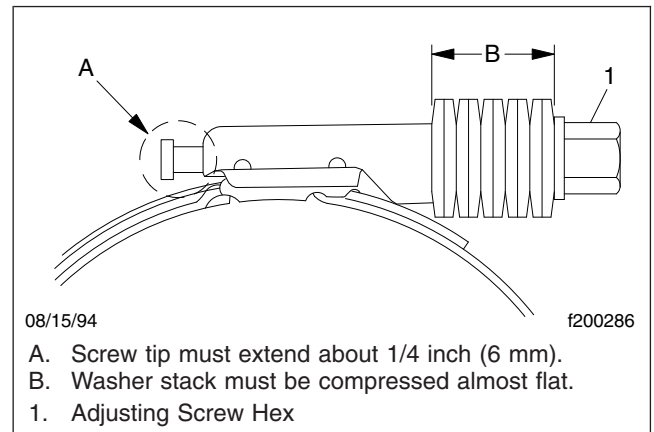

Fig. 4, Breeze Constant-Torque Hose Clamp
5. Western Star uses Breeze Constant-Torque hose clamps on the radiator hoses. Check the hose clamps to ensure that they are properly torqued. See Fig. 4. The tip of the screw must extend about 1/4 inch (6 mm) from the clamp housing, and the washer stacks must be compressed almost flat. Hose clamps lose torque after installation due to "compression set." Breeze Constant-Torque hose clamps will hold enough torque to automatically keep consistent sealing pressure. Due to temperature changes, the screw tip extension may change. The clamp screw may need to be adjusted for individual applications.